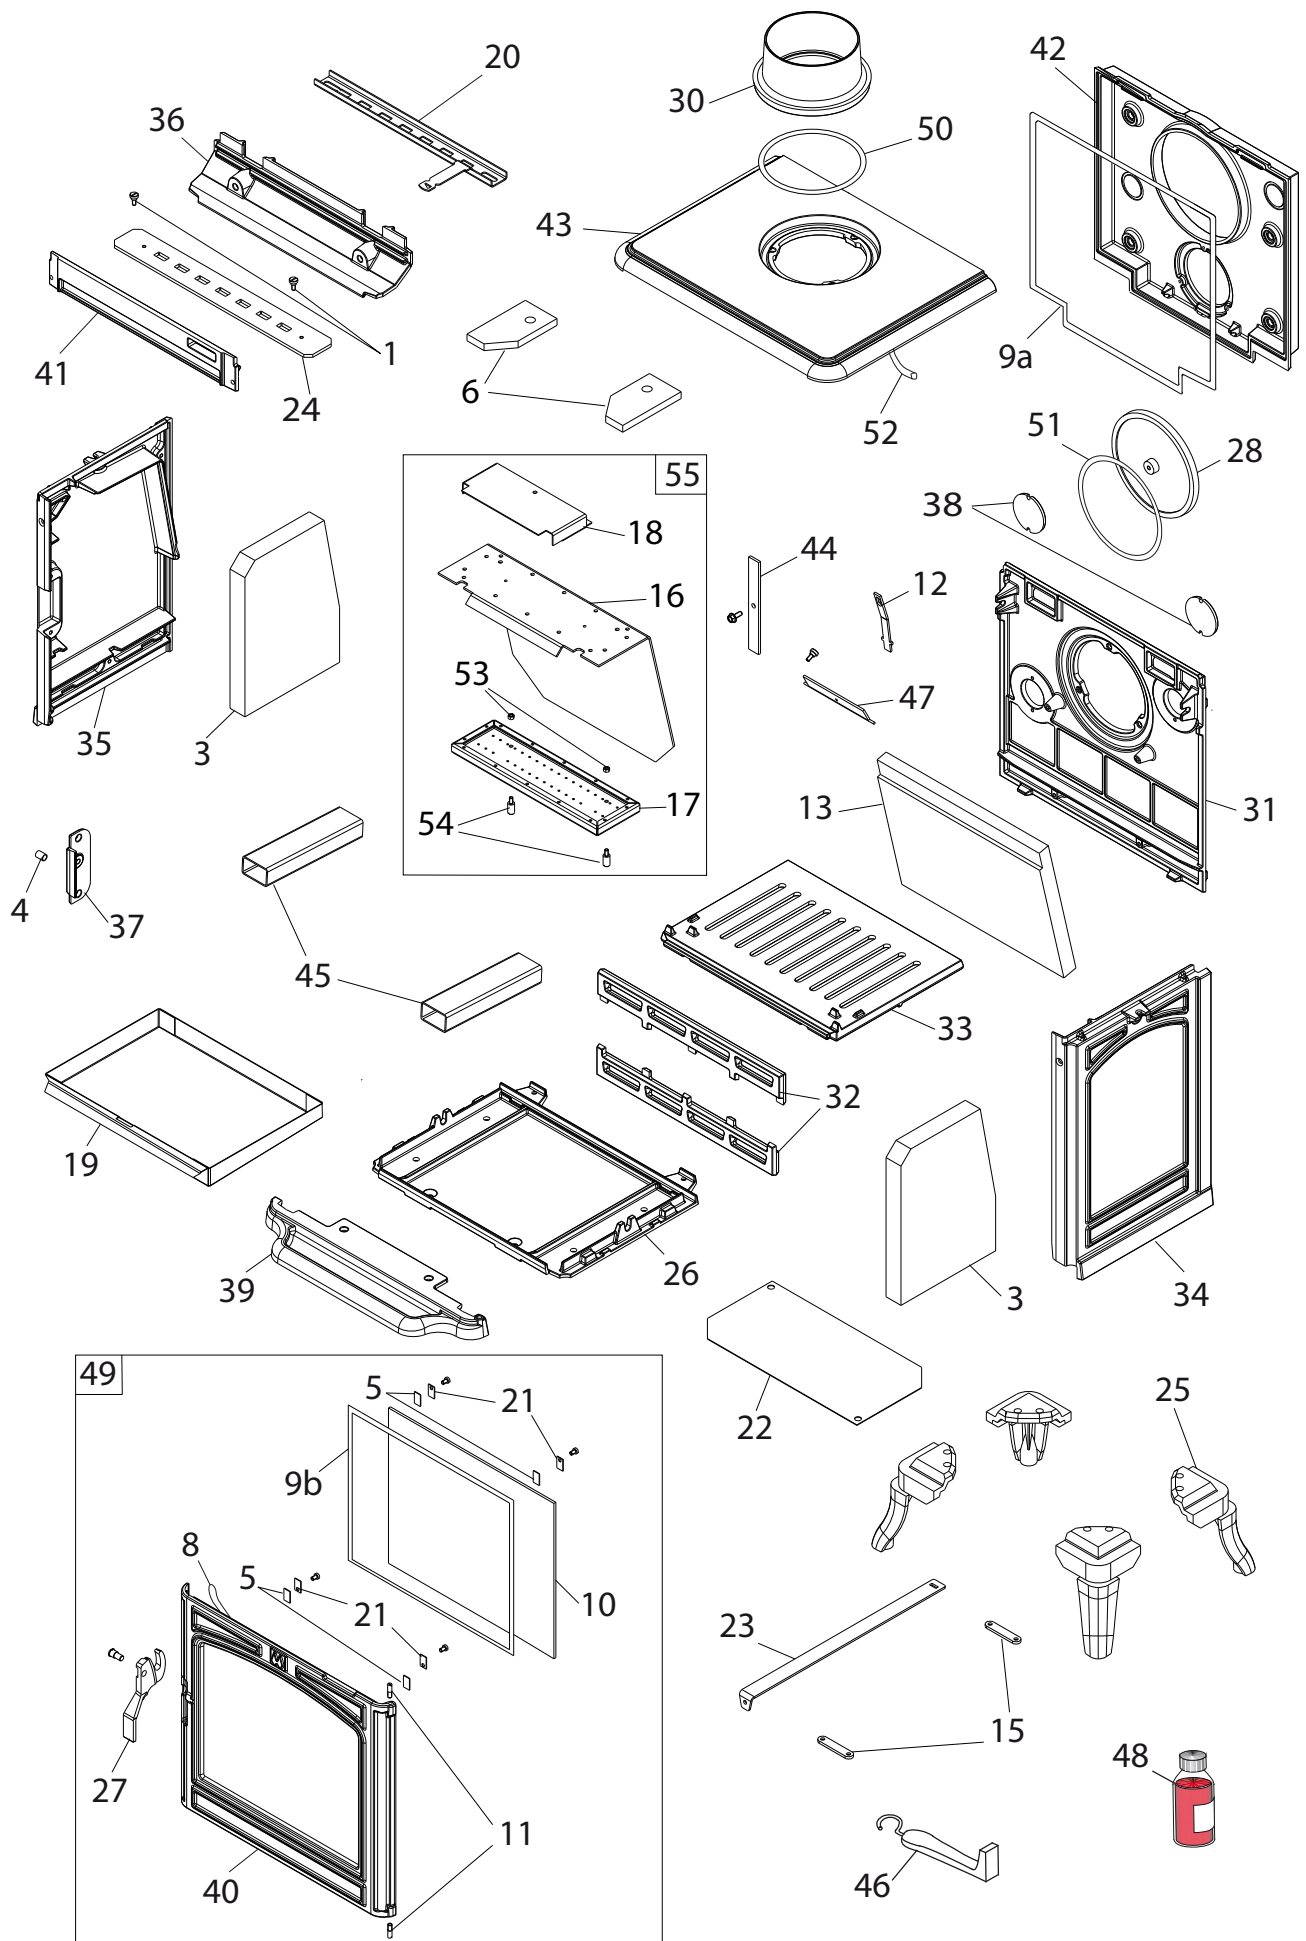

Figure 8 - Stove - exploded view
- Ensure that the fuel retainer is installed correctly (fig. 8).